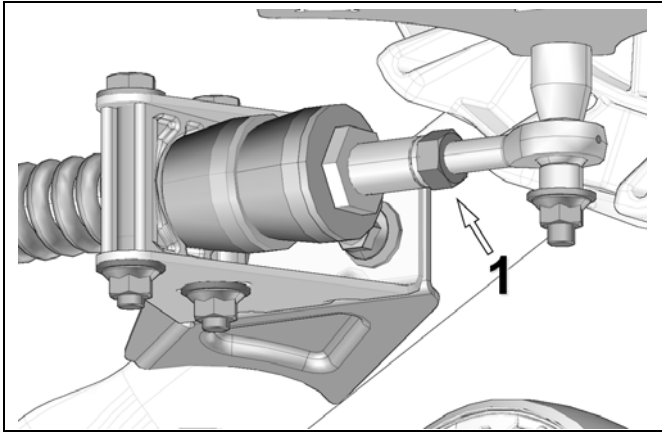

Figure 20
- Re-tighten jam nut (1) when adjustment is complete. See Figure 20.